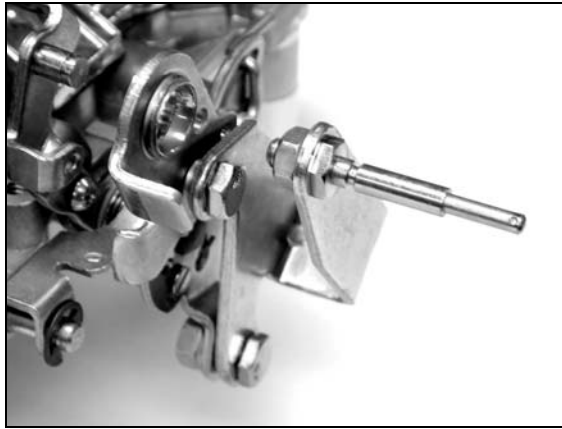

Figure 1—Chrysler applications
1. If you are replacing an existing Holley carburetor, you may need to purchase and install a throttle lever extension (Holley P/N 20-7) on the carburetor. Remove the throttle stud and nut from the original carburetor. You can purchase a new stud from your Holley dealer (Holley P/N 20-36). Install the stud in the throttle extension lever (Figure 1).